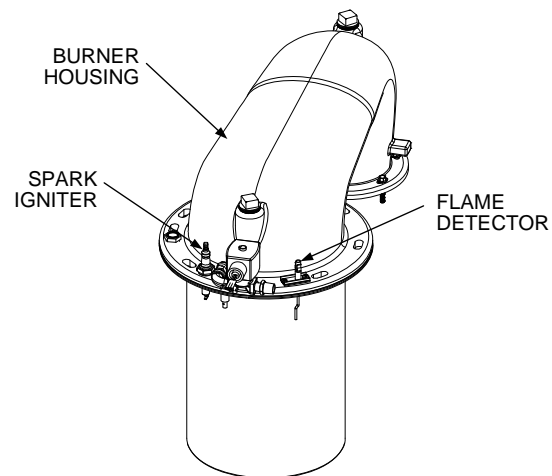

Figure 7-2
3. Disconnect the flame detector lead wire. Unscrew the flame detector and remove it. (See Fig 7-2)